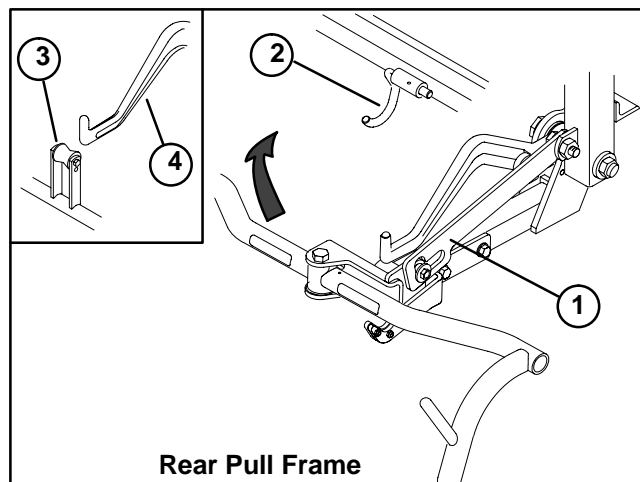

Figure 38
7. For the rear cutting unit: (Fig. 38).
3. On the front cutting units, slide cutting unit under the pull frame while hooking the lift roller onto lift arm (Fig. 38).
4. On the rear cutting unit, rotate and latch unit into the service position (Fig. 38).